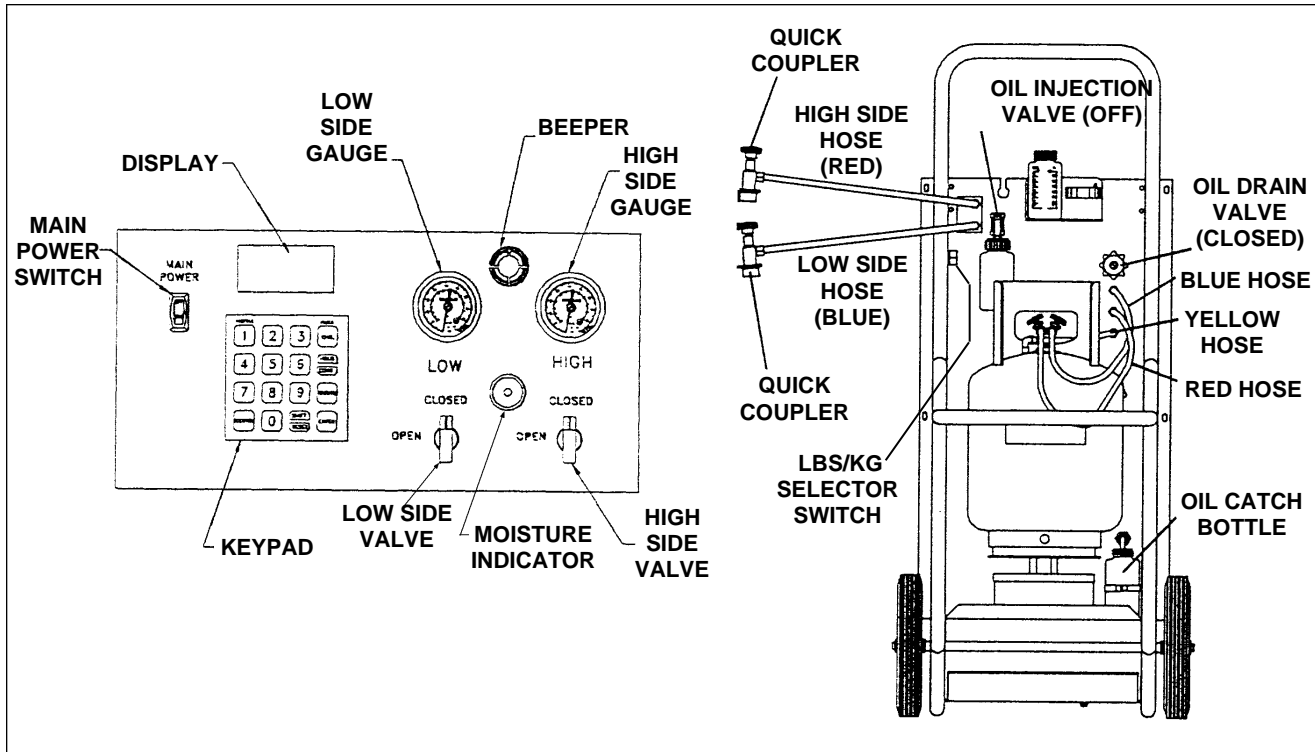
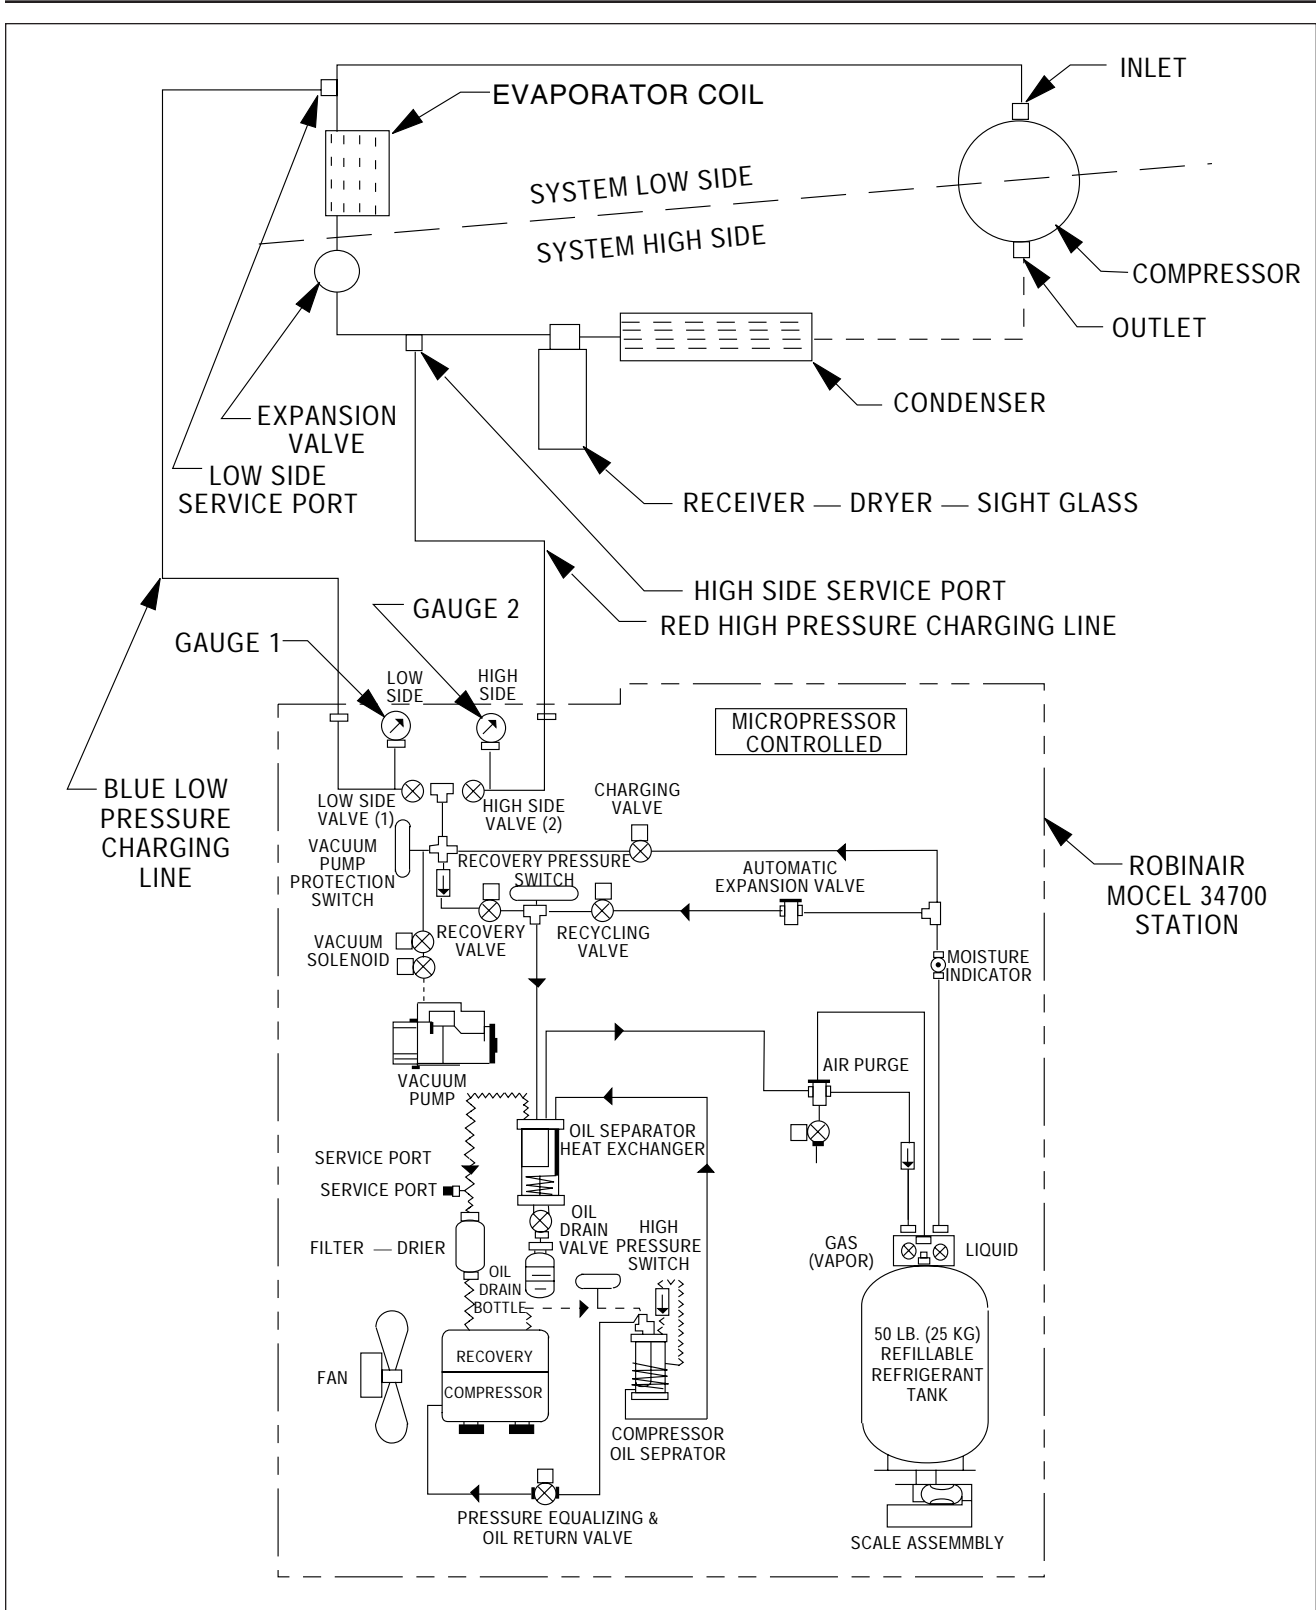

Figure 14-6. Robinair 34700 Control Panel and Hose Connections
Figure 14-7. Robinair 34700 Hose Hookup
- a. Using the Robinair 34700 (Refer to Figures 14-6 and 14-7)
3. Close both the low side and high side valves on charging unit. Refer to Figure 14-6
4. Connect the blue and red hoses to the service ports as shown in Figure 14-7. On systems equipped with quick disconnect connections, open coupler valves
5. Open blue (low side) valve (1) on unit's control panel
6. Open both the red GAS (vapor) valve and the blue LIQUID valve on the *tank*. (Refer to Figure 14-6.)
2. Open the **high** side (2) valve and allow 1/2 pound of refrigerant to enter the system. Close **high** (2) side valve. (Refer to Figures 14-6 and 14-7.)
### 14-12. DISCHARGING (BLEEDING OR PURGING) SYSTEM. (Refer to Figure 14-6.)